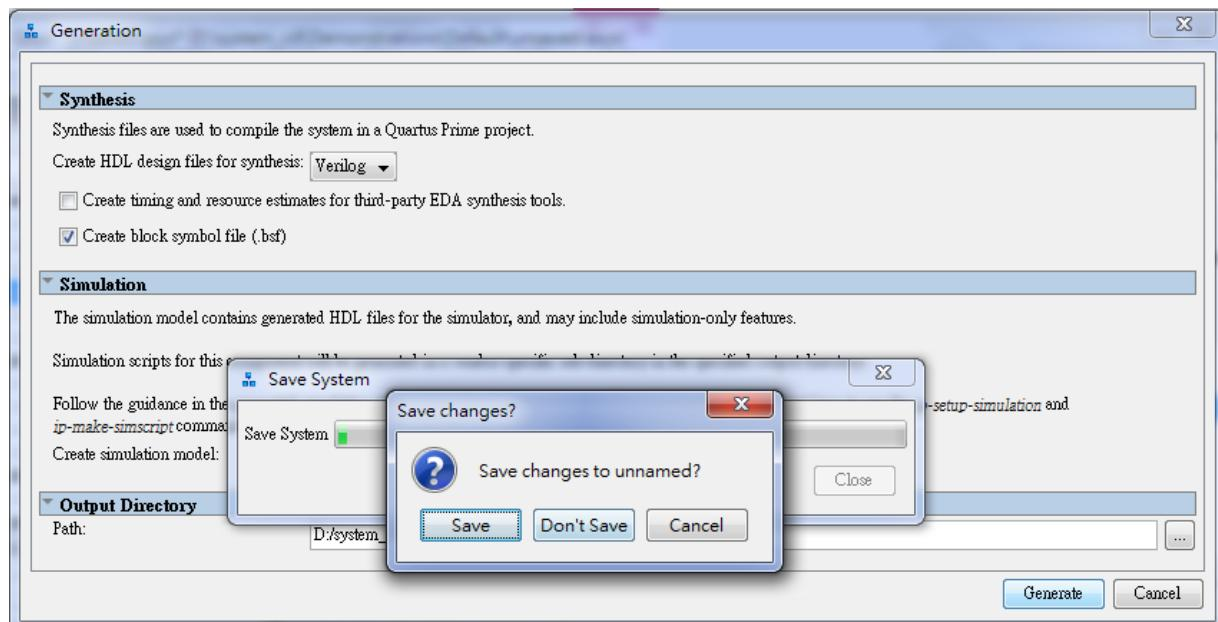
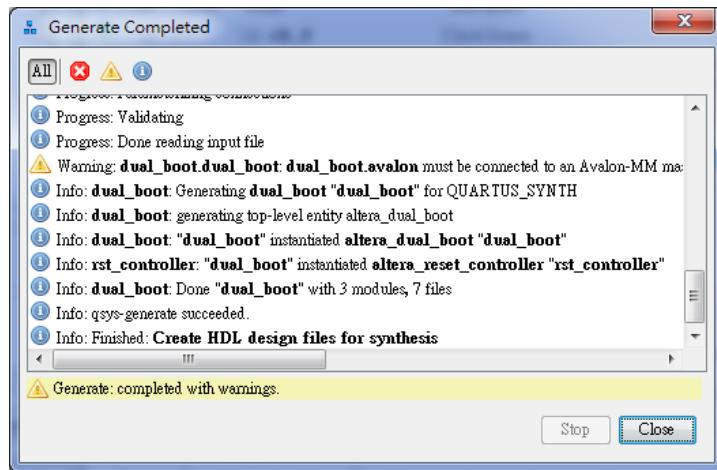

Figure 6-8 Generate and Save Qsys.
Figure 6-9 Generate completed.
4. Choose **Generate > Generate HDL..** and click **Generate** then pop a window as shown in **Figure 6-8**. Click Save it as dual_boot.qsys and the generation start. If there is no error in the generation, the window will show successful as shown in **Figure 6-9**.